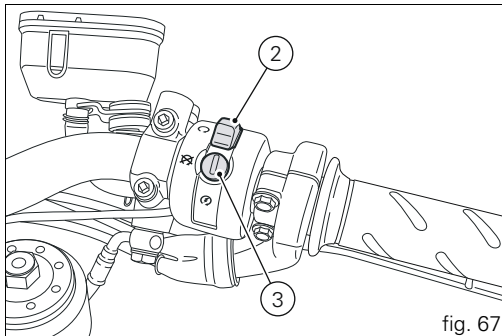

fig. 67
- 2) Check that the stop switch (2, fig. 67) is positioned to  (RUN), then press the starter button (3, fig. 67).